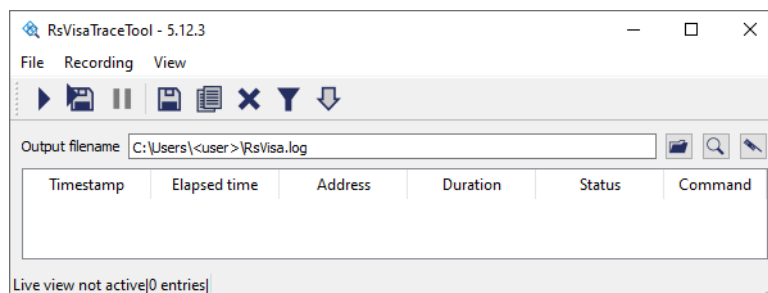

Figure 9-2: Trace tool dialog started, no entries yet
- ▶ To track VISA commands, click "Start recording" ▶ (button at top left of Figure 9-2). During a recording, the "Trace Tool" creates a log table of all VISA commands that occur upon operating other software, including R&S ELEKTRA. For example, when you start an EMI test, the recording can look as follows: